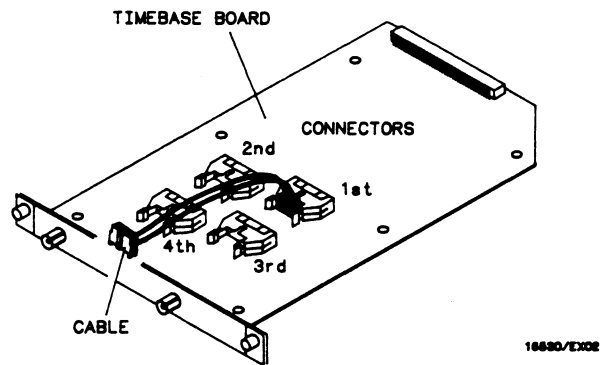

Figure 2-4. Cable Position
- h. Lay cable(s) flat and pointing out to rear of card. See figure 2-4.